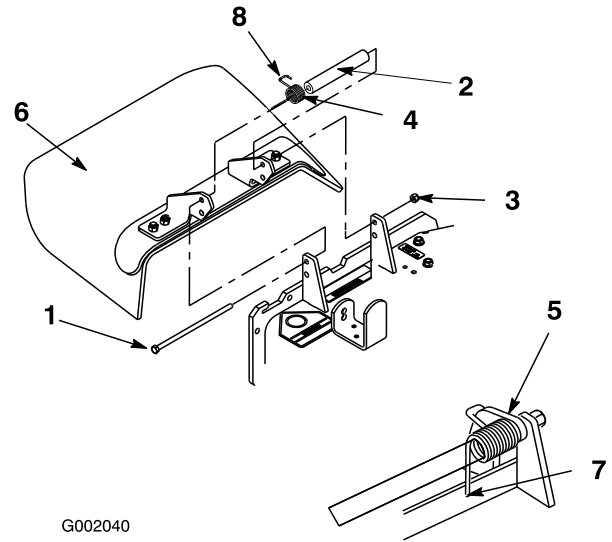

Figure 71
1. Remove the locknut, bolt, spring and spacer holding the deflector to the pivot brackets (Figure 71). Remove the damaged or worn grass deflector.
Note: Make sure the L end of the spring is installed behind the deck edge before installing the bolt as shown in Figure 71.
3. Install the bolt and nut. Place the **J** hook end of the spring around the grass deflector (Figure 71).